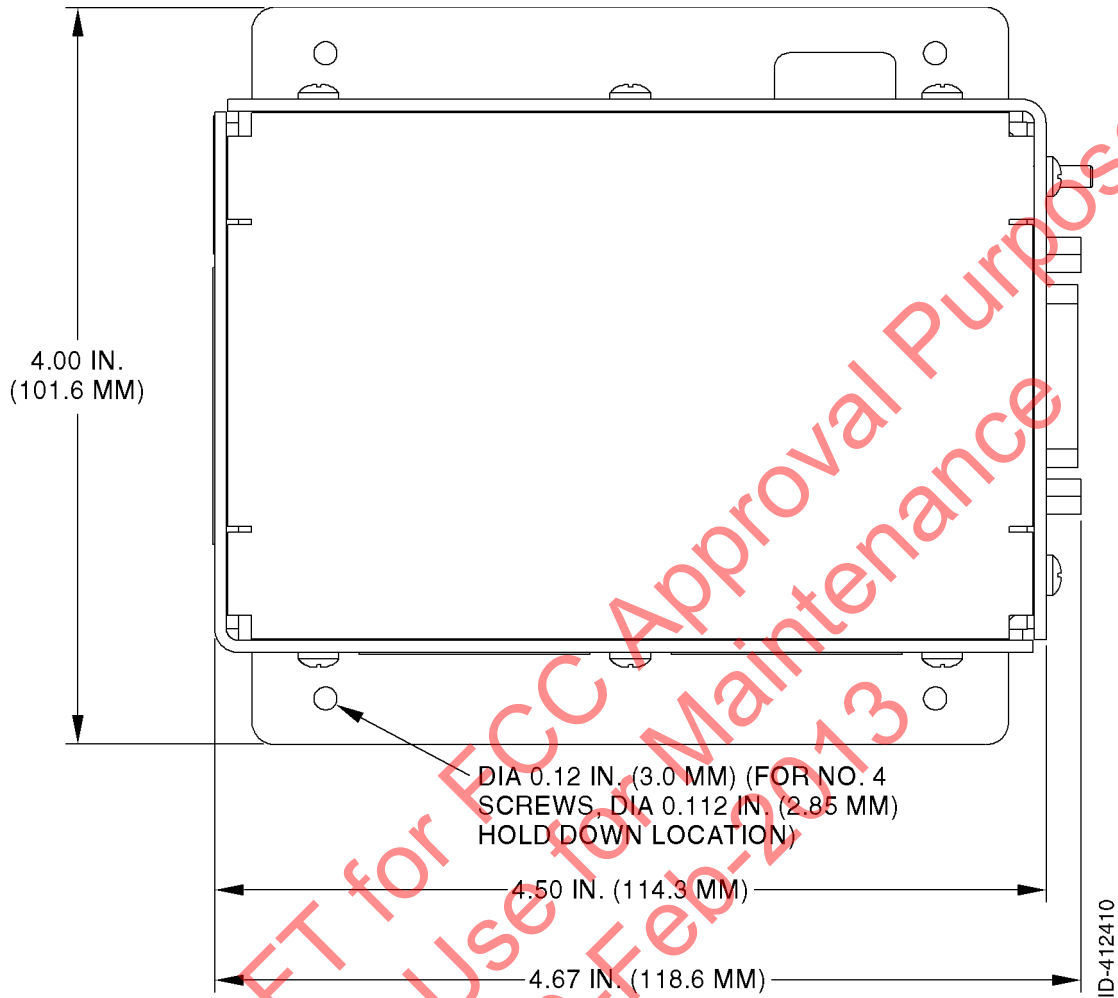

Figure 12. (Sheet 1 of 1) SCM Top View (GRAPHIC 23-15-30-99B-812-A01)
(3) SCM Installation
- (a) Refer to Figure 12 (GRAPHIC 23-15-30-99B-812-A01).